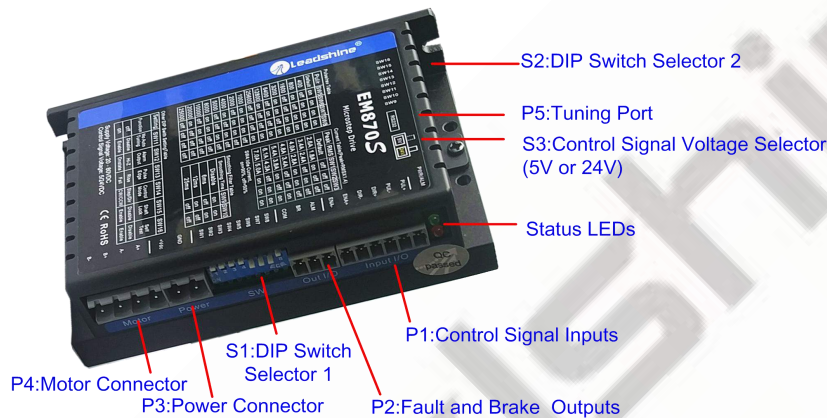

Figure 2 Connectors, DIP switches, and LED locations
| DIR- (CCW-) | (6) The activated edge of PUL and DIR is set by DIP Switch SW13 (7) The factory setting of control signal voltage is 24V, must need to set S3 (figure 2) if it is 5V |
| ENA- | (3) ENA signal requires advance DIR signal minimum 5μs in single pulse mode (4) The default control signal voltage is 24V, to set S3 (figure 2) if it is 5V (5) Enable time to be at least 200ms |
The EM870S can accept differential or single-ended control signals (pulse, direction, and enable) in open-collector or PNP connection through the P1 connector (figure 2). It is recommend to add an EMI line filter between the power supply and the drive to increase noise immunity for the drive in interference environments.
The first 8-bit is located on the side (DIP switch selector 1 in Figure 2) and used to configure settings of micro step resolution, output current, and motor standstill current as shown below, the factory setting of SW1-SW8 is **OFF, OFF, OFF, OFF, OFF, OFF, ON, ON**.
The second 8-bit DIP switch is located on the top (DIP switch selector 2 in figure 2), and used to configure settings of control command filtering time, motor auto-configuration, fault output impedance, pulse active edge, control mode, lock shaft, and self-test as shown below, the factory setting of SW1-SW8 is **OFF, OFF, OFF, ON, ON, OFF, OFF, OFF**.
The Third 1-bit selector is located on the top (DIP switch selector 3 in figure 2), used to configure the voltage of control signals. For the safety of optically coupled, the factory setting is 24V, which no need to connect 2K resistors like the old drives, making it easier to use. When the voltage of the control signal is 5V, the S3 must be set to 5V, otherwise, the motor won't work.